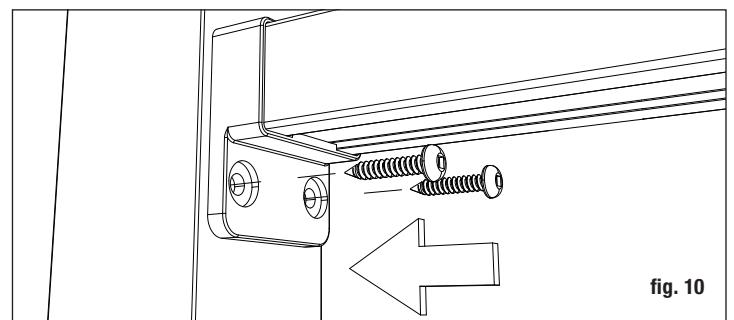

fig. 10
**Step 8** The finished rail height is typically a minimum of 36" or 42". Using the cable spacer, prop rail in place and level. Mark the bracket holes on both posts. Remove rail. Predrill screw locations through the posts, using a 3/16" drill bit at top bracket locations (fig. 10).
**Step 10** Position the rail between the posts. Check for level end-to-end and vertically. Attach brackets to the post at one end. Repeat for the other end. *Tip: Use a driver extension bit to avoid marring the rail with the drill chuck. Install all rails prior to installing cable* (fig. 10).